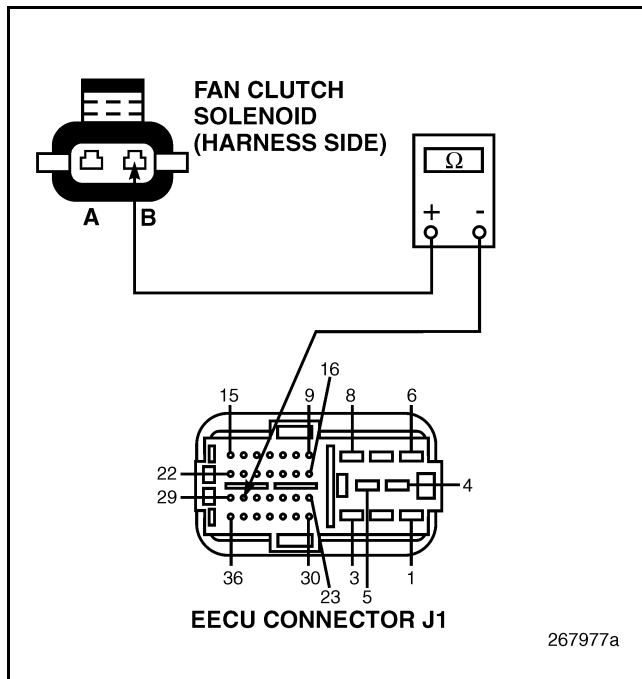

Figure 466
4. If the vehicle is equipped with an on/off fan clutch, check for continuity between pin B of the Fan Clutch Solenoid harness connector and EECU connector J1 pin 28 (see Figure 466).